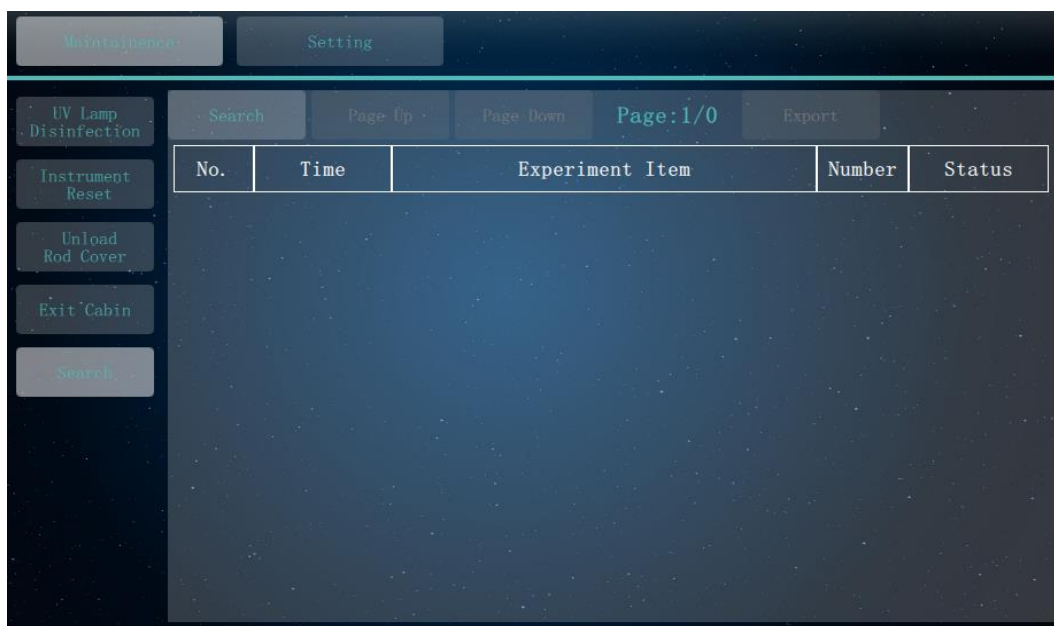

Figure 5-13b. Maintenance Subtab - Search
5. < **Search** >: User can click this function key to query the recent experiment records, as shown in figure 5-13b.